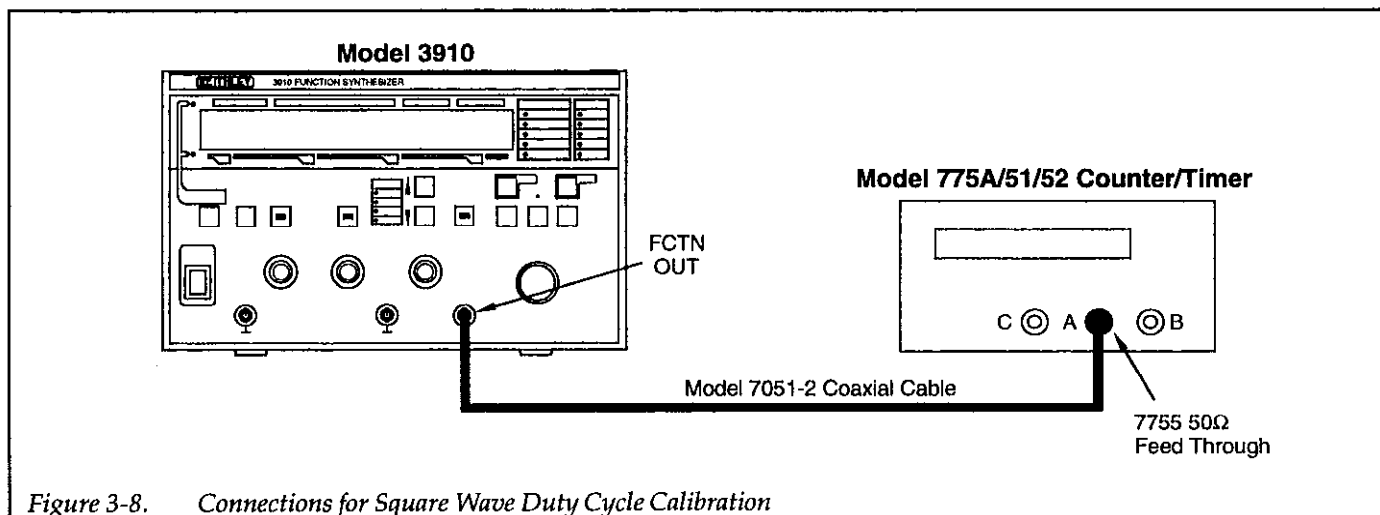

Figure 3-8. Connections for Square Wave Duty Cycle Calibration
1. Connect the Model 3910 FCTN OUT jack to input A of the counter/timer, as shown in Figure 3-8.